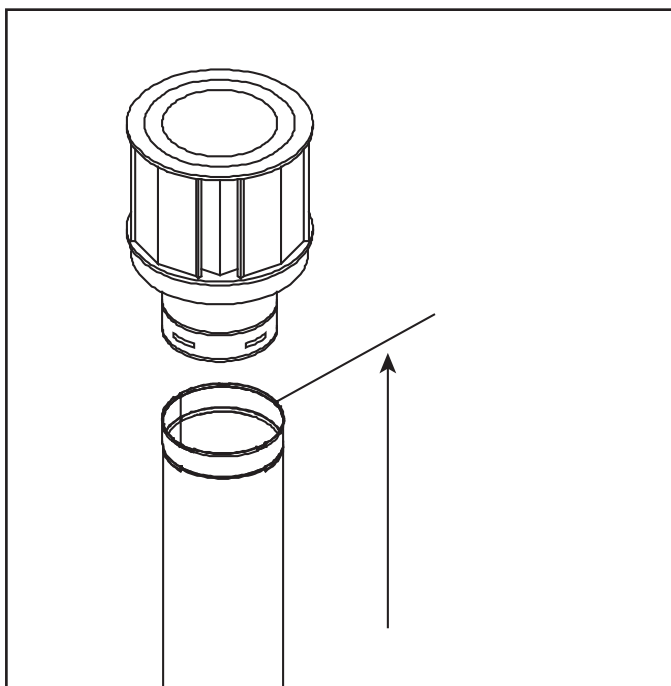

Figure 4.7. Measure to Top of Last Section of Pipe
- Vertical terminations are measured to top of last section of pipe. See Figure 4.7.
- TRUE-36(NG/P), TRUE-42(NG/P) and TRUE-50(NG/P) models require a minimum of 36 inches of vertical venting before attaching any elbow to the appliance for the venting configuration in Figure 4.7.